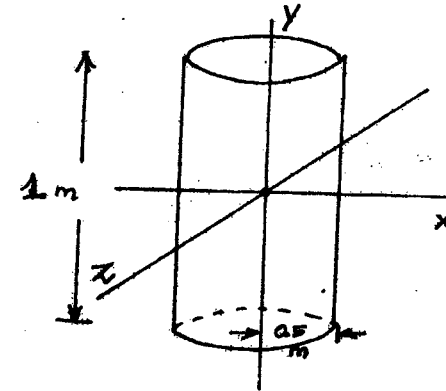

Fig 4
- b) Calculate the mass moment of inertia of the cylinder of radius 0.5 m, height 1 m and density  $2400 \text{ kg/m}^3$  about the centroidal axis. (Fig 4)